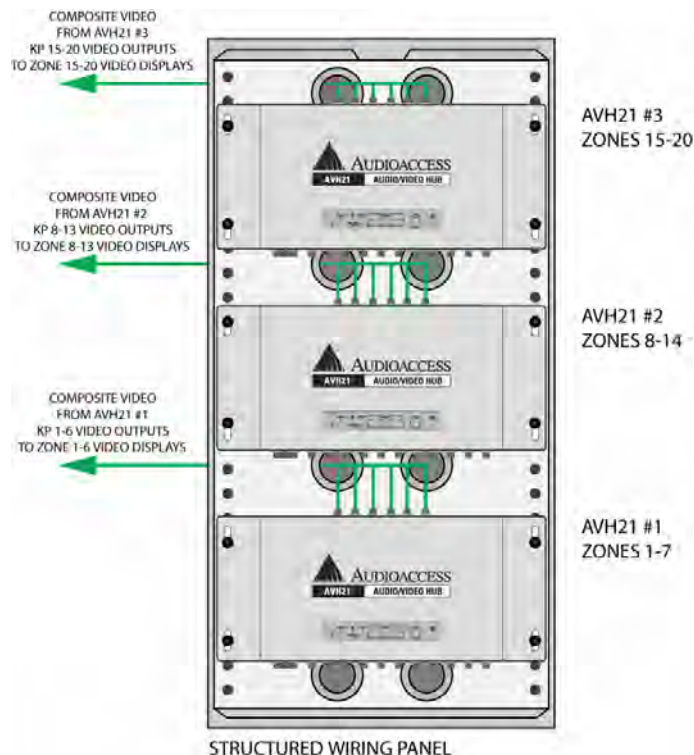

Figure 94 AVH21 Zone Video Output Connections
1. Using RG6 quad shield coaxial cable terminated with male F connectors, connect the appropriate **KP Video Output 1-6 Terminal [pentagon 2]** on the AVH21, as shown in **Figure 94**, to the appropriate zone 1-6 video display composite video input. NOTE: The AVH21 only has video outputs for zones 1-6. Confirm proper connection by zone (Keypad number). Improper connection will cause operational errors such as misrouted video signals.
2. In larger systems using multiple Hubs, repeat step 1 for all **KP Video Output [pentagon 2]** connections to AVH21 #s 1, 2 and 3 for all zones configured for video. Confirm all connections by zone (keypad number) as shown in **Figure 94**.